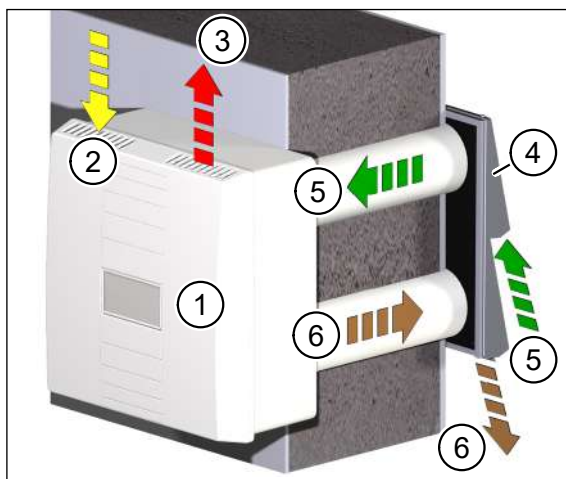
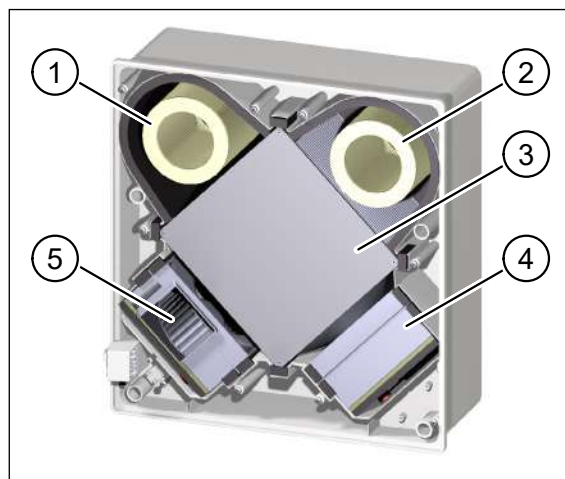

Fig. 8: How the ventilation unit works
Fig. 9: Components for air exchange
Item in Fig. 8	Designation
Item in Fig. 9	Designation
The fans are arranged on the supply air and exhaust air sides. The supply air fan (item 5 in Fig. 9) transports outdoor air (item 5 in Fig. 8) through the outdoor air filter (item 2 in Fig. 9) and cross-flow plate heat exchanger (item 3 in Fig. 9) into the interior as supply air (item 3 in Fig. 8). The exhaust air fan (item 4 in Fig. 9) extracts the extract air (item 2 in Fig. 8) from the interior. In the extract air filter (item 1 in Fig. 9), the extract air is cleaned, guided through the cross-flow plate heat exchanger and carried outside as exhaust air (item 6 in Fig. 8).